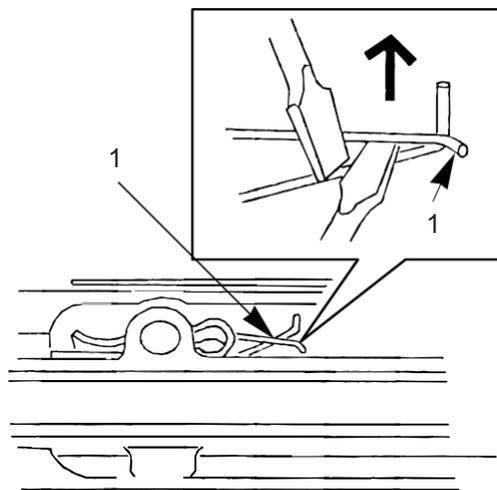

Figure 60. Spring, Prying Screw driver.
32. Unhook straight leg of spring (Figure 60, Item 1) by holding hooked leg in place with screwdriver and prying up straight leg with another screwdriver.